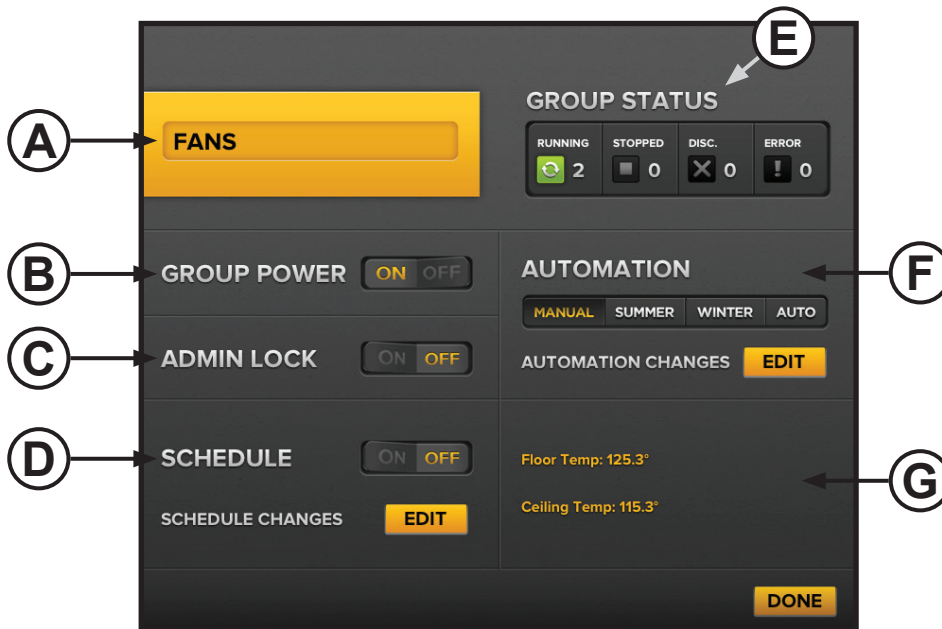

Figure 3—Fan group details page
2. Locate the fan group you want to work with, and then touch the **Detail Page** button for the group. The group details page appears (Figure 3).
3. Adjust the settings as necessary, and then touch **Done**. See Figure 3 below and the following pages for details.